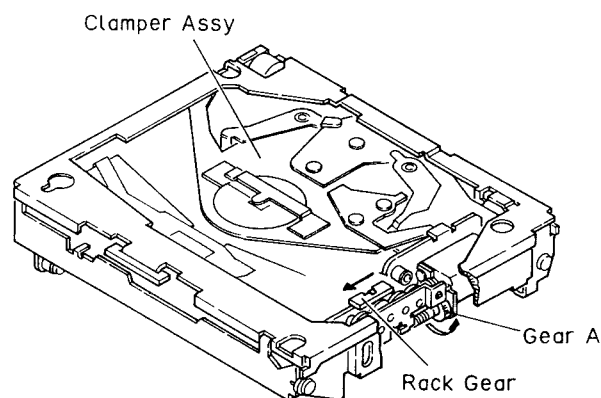

Fig. 13
(Fig.13)
2. Press the rack gear in the arrow direction and engage gears.(Fig.13)
3. Put into the play mode.(The clamber assembly is at low position.)(Fig.13)